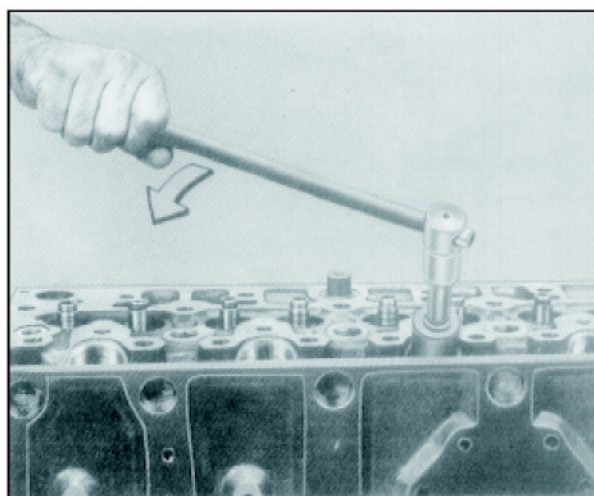

Fig. 17
8. Loosen protective sleeve in cylinder head with adaptor, 000 589 0309. Fig. 17.